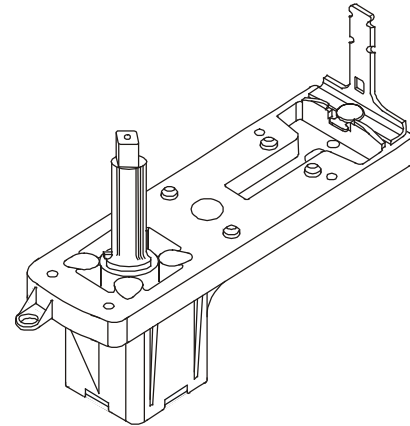

Figure 5: M9206 Anti-rotation Slider Mounting Location
1. Reposition the slider as shown in Figure 5. Loosen the wing nut and remove the carriage screw and anti-rotation slider. Move the anti-rotation slider to the back of the mounting bracket as shown in Figure 5. Secure the assembly using the carriage screw, split lock washer, flat washer, and wing nut provided. Loosely engage the wing nut only a few turns on the carriage screw to reposition the anti-rotation slider until after you mount the actuator.